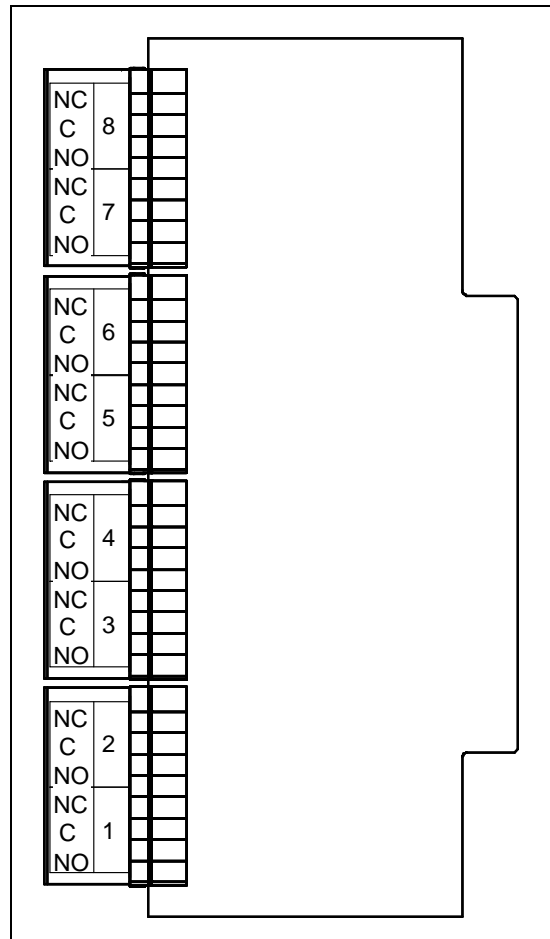

Figure 23: Relay Module Labels
- Each relay module has 8 relays installed. There is a plug-in terminal strip for each set of relay contacts. They are labeled “1-8” from bottom to top. Refer to Figure 23 for identifying each relay set.
3. Locate the applicable alarm terminal strip (see Figure 23 on page 35).